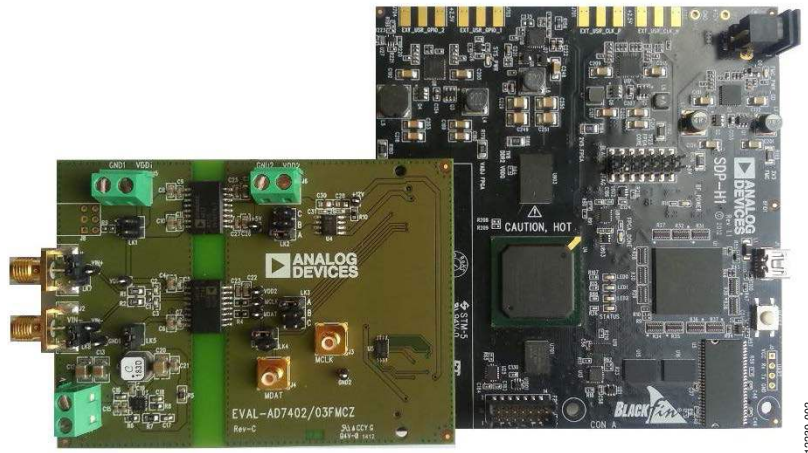

Figure 2. EVAL-AD7403FMCZ Evaluation Board (Left) Connected to the EVAL-SDP-CH1Z Board (Right)
3. Connect the EVAL-SDP-CH1Z board to the evaluation board as shown in Figure 2.
The **EVAL-AD7403FMCZ** connects to the **EVAL-SDP-CH1Z** system demonstration platform. The **EVAL-SDP-CH1Z** board is the controller board, which is the communication link between the PC and the main evaluation board. Figure 2 shows a photograph of the connections between the **EVAL-AD7403FMCZ** daughter board and the **EVAL-SDP-CH1Z** board.